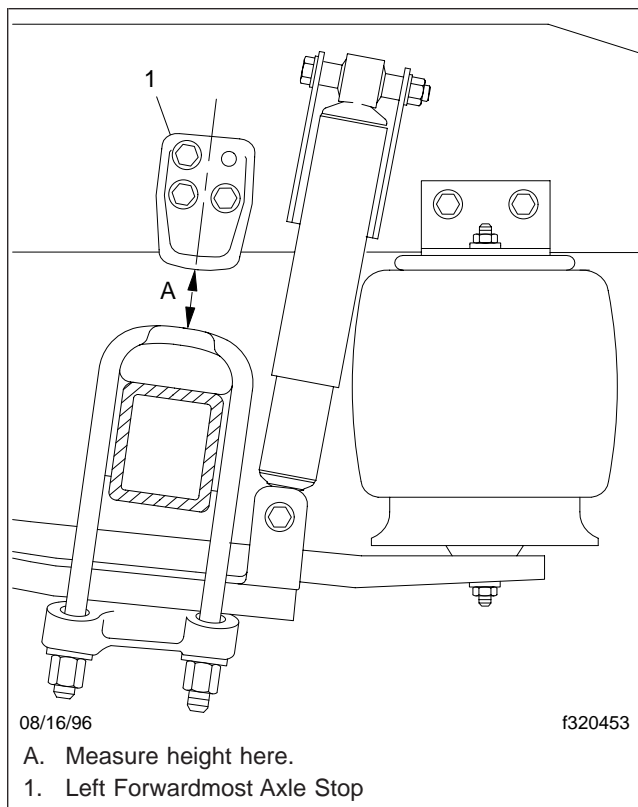

Fig. 10, AirLiner Axle Stop Measurement
5. On single-drive rear axle configurations, measure the distance from the bottom of the left axle stop to the top of the U-bolt pad. On tandem (dual-drive) rear axle configurations, measure the distance from the bottom of the forwardmost left axle stop to the top of the axle U-bolt pad. See **Fig. 10**, Ref. A. The correct distance for single and dual-drive rear axles is between 2-3/8 inches and 2-7/8 inches (60 to 73 mm).